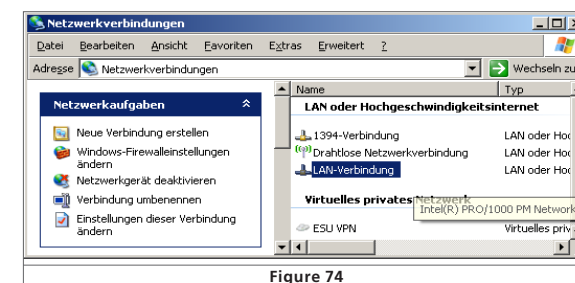

Figure 74
- Now a window similar to the one shown in Figure 74 should open.